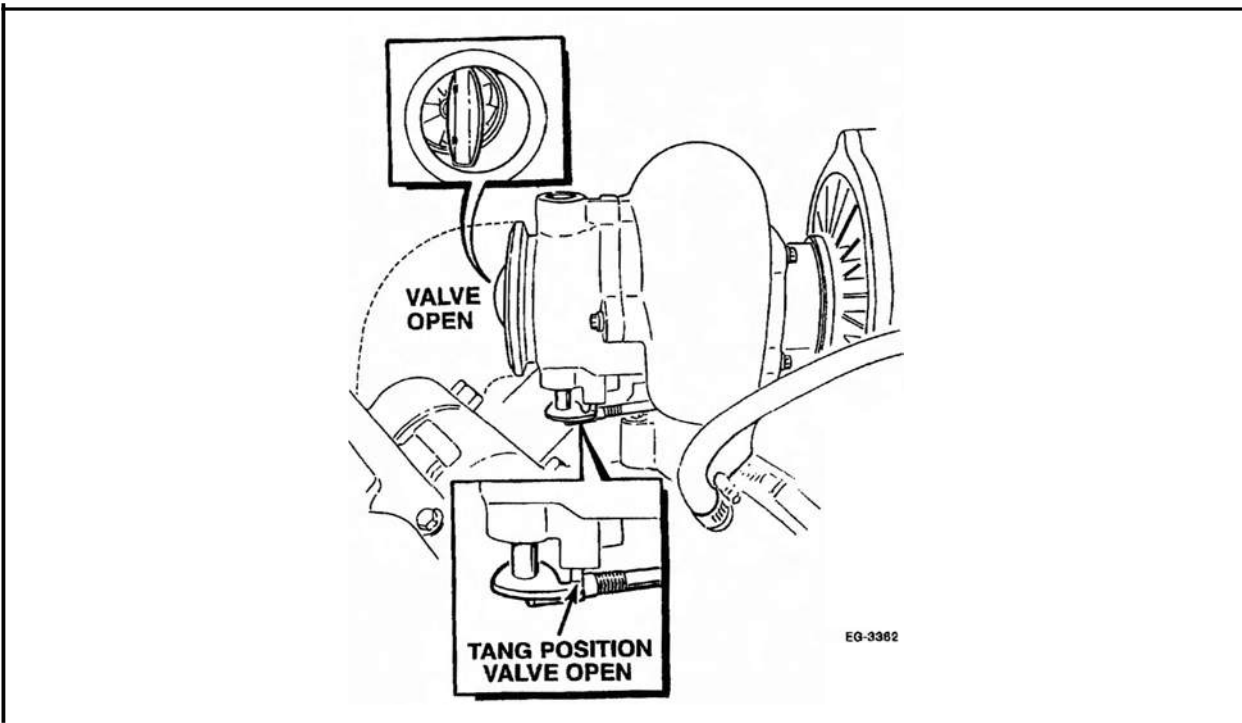

Figure 2.3-8. - Checking Position of Exhaust Back Pressure {butterfly} Valve At High Idle
4. The exhaust back pressure valve should be open. {Figure 2.3-8.} illustrates position of tang on bellcrank of the back pressure device when the exhaust back pressure (butterfly) valve is open. (If so equipped)